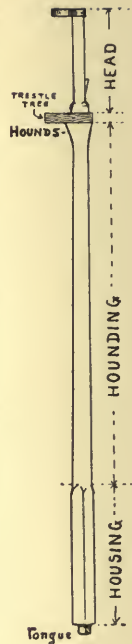

FIG. 1.—POSITION OF FLAG WHEN FLYING.
**House flag.**—A square flag displaying the device and colours adopted by any mercantile shipping company. It is used as a signal in port or to pilots, piermasters, etc., and also when meeting other vessels. Fig. 1 shows its position when flying, and fig. 2 indicates the colours adopted by the P. and O. and Orient lines.